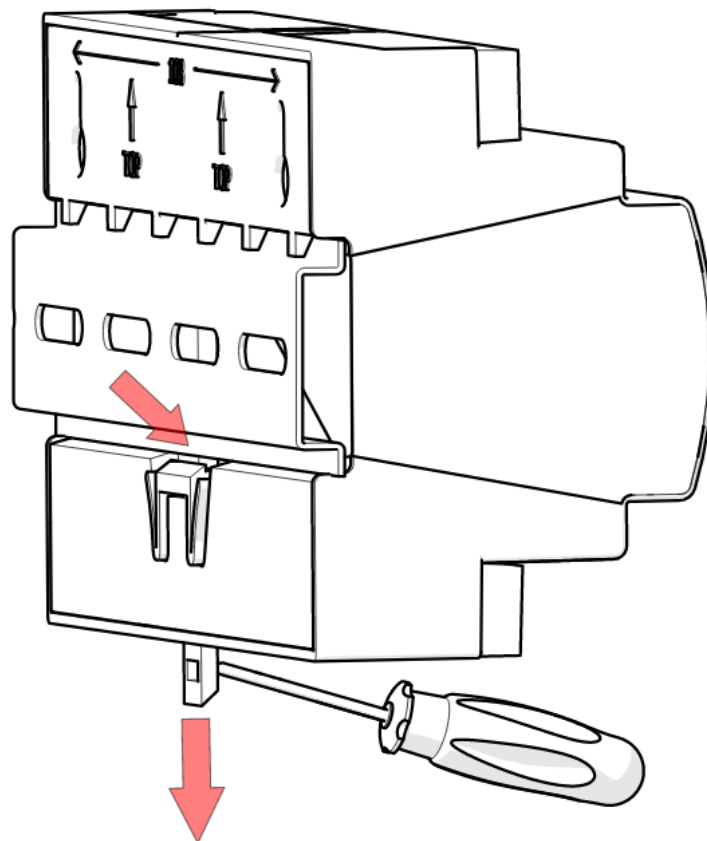

Figure 7. Pull down the spring-loaded retention clip using a flat-blade screwdriver
3. Push the unit onto the DIN rail. Refer Figure 7.